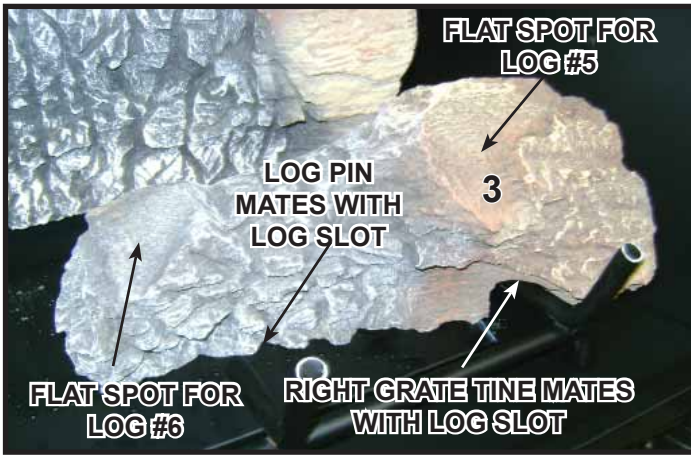
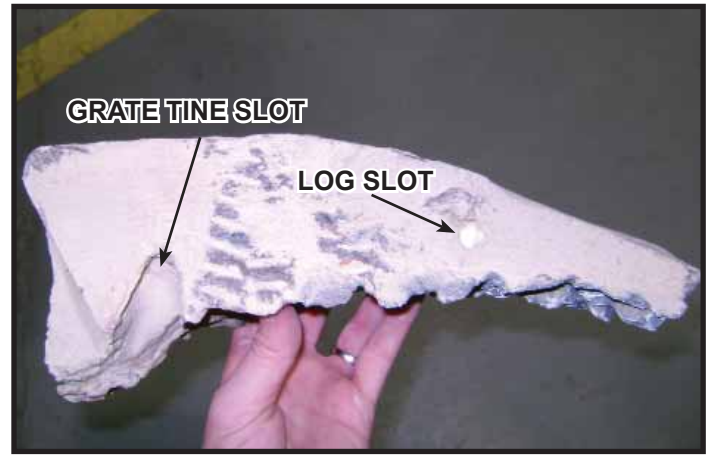

Figure 6. Log #3
Figure 7. Log #3
**Log #3 (SRV2224-702):** Position Log #3 as shown in Figure 6. Refer to Figure 2 and Figure 7 for location of reference points. Mate the log slot located on the bottom of Log #3 with the right log pin located on the burner top. Rotate the right end of Log #3 forward until it contacts with the right grate tine.